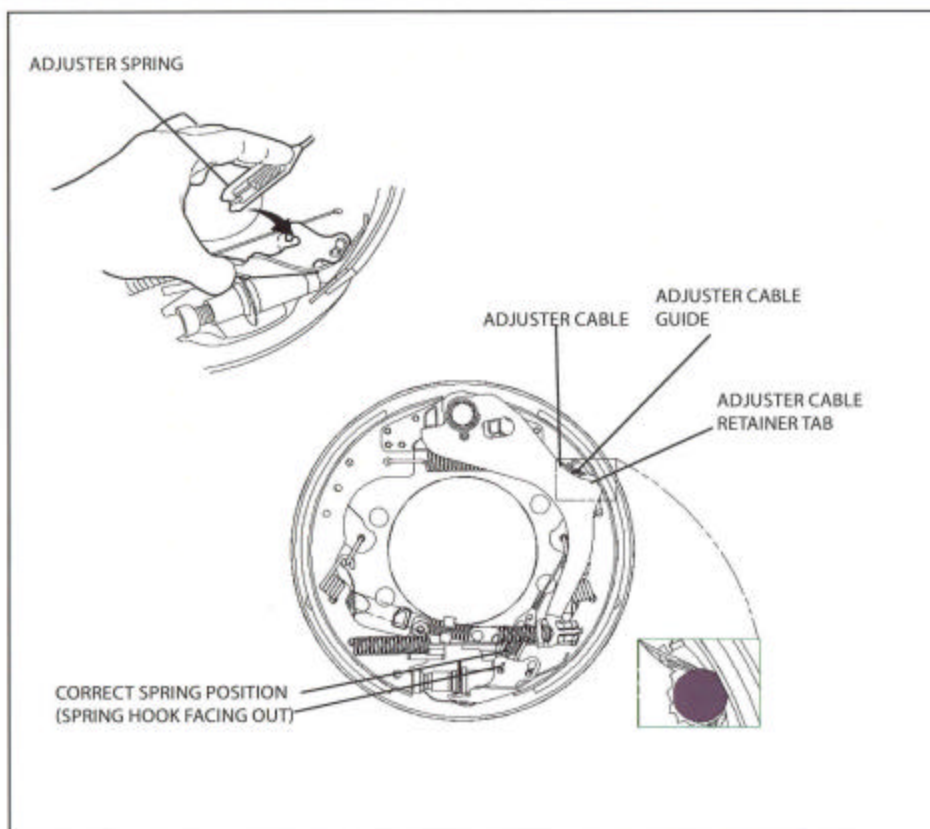

Figure 6
- 11) Re-install the adjuster cable to the adjuster lever making sure the adjuster cable is routed around the adjuster cable guide and under the shoe hold down spring. See Figure 6.